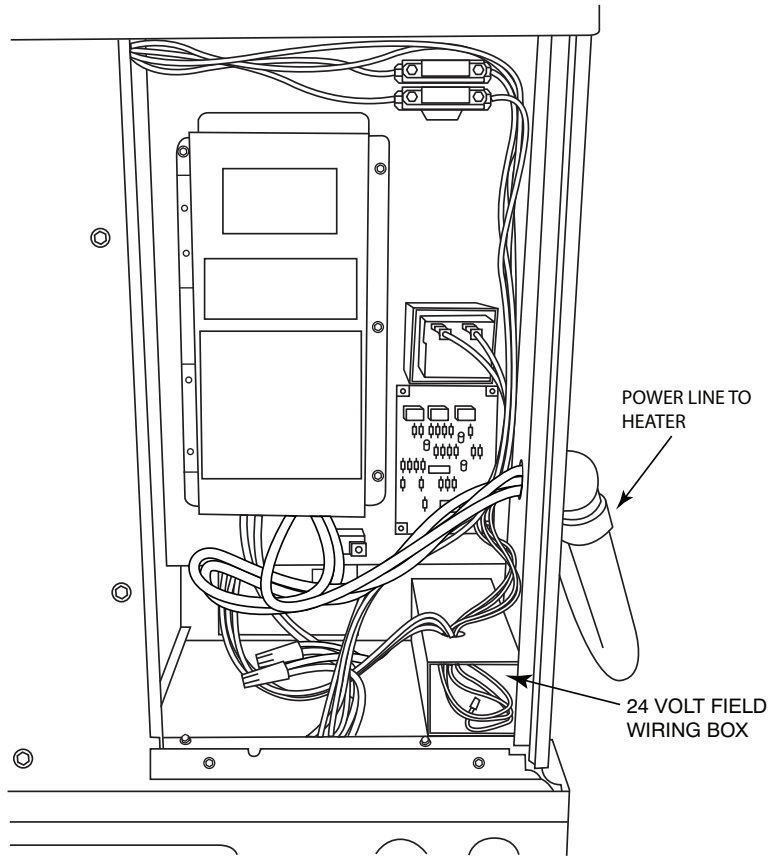
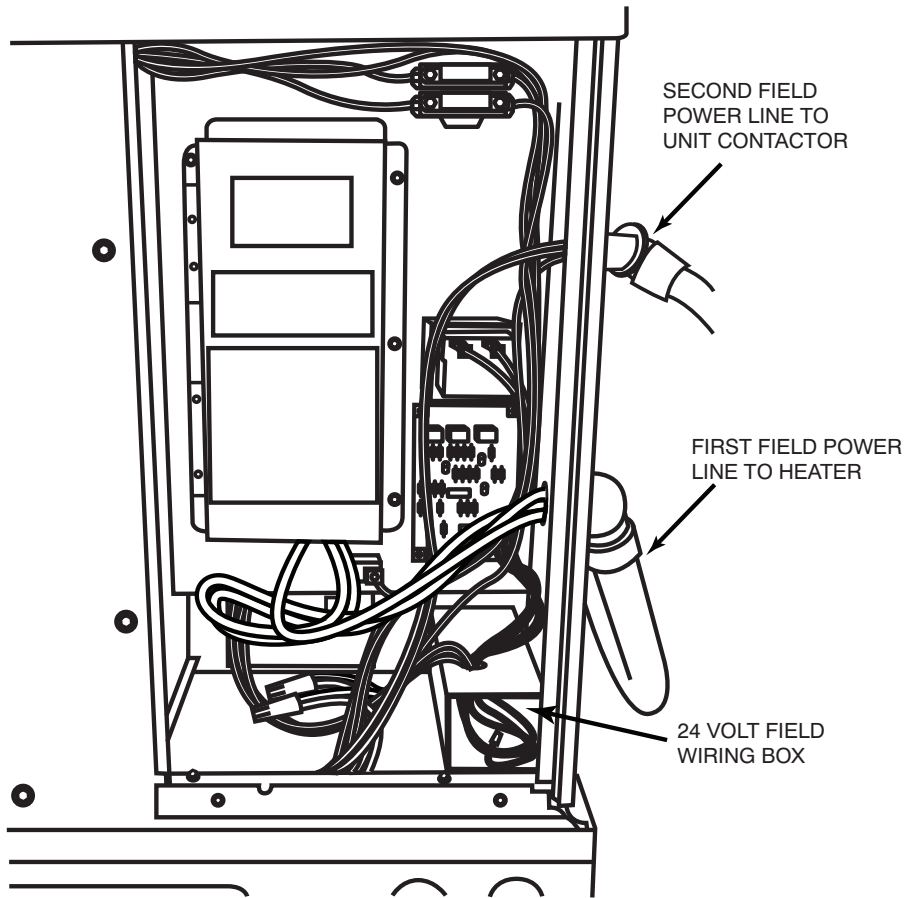
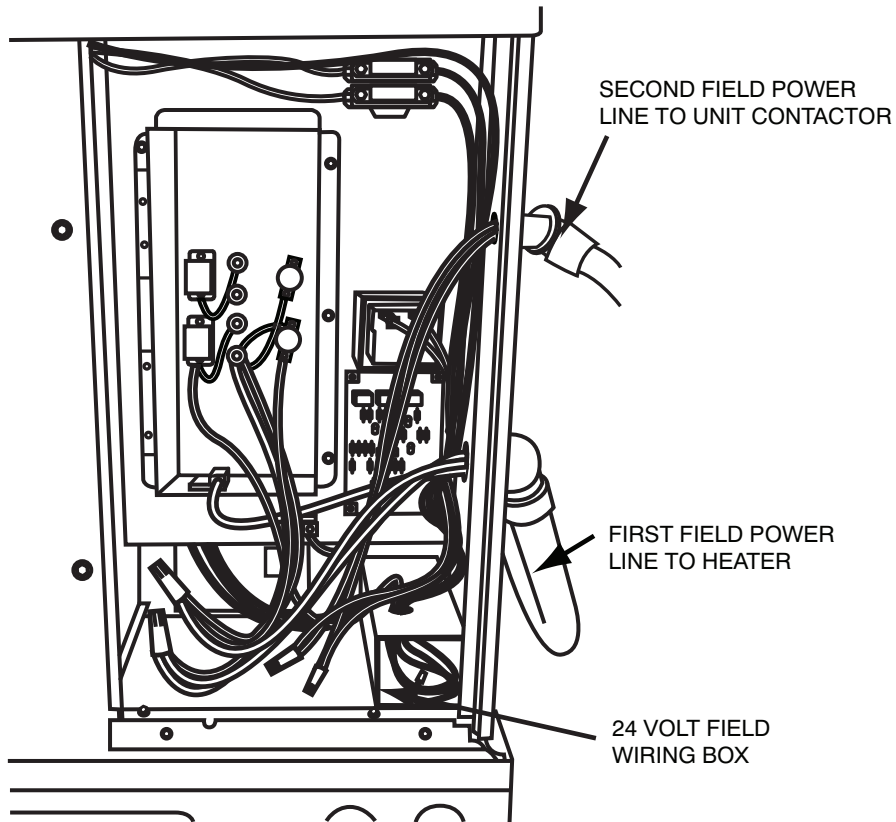
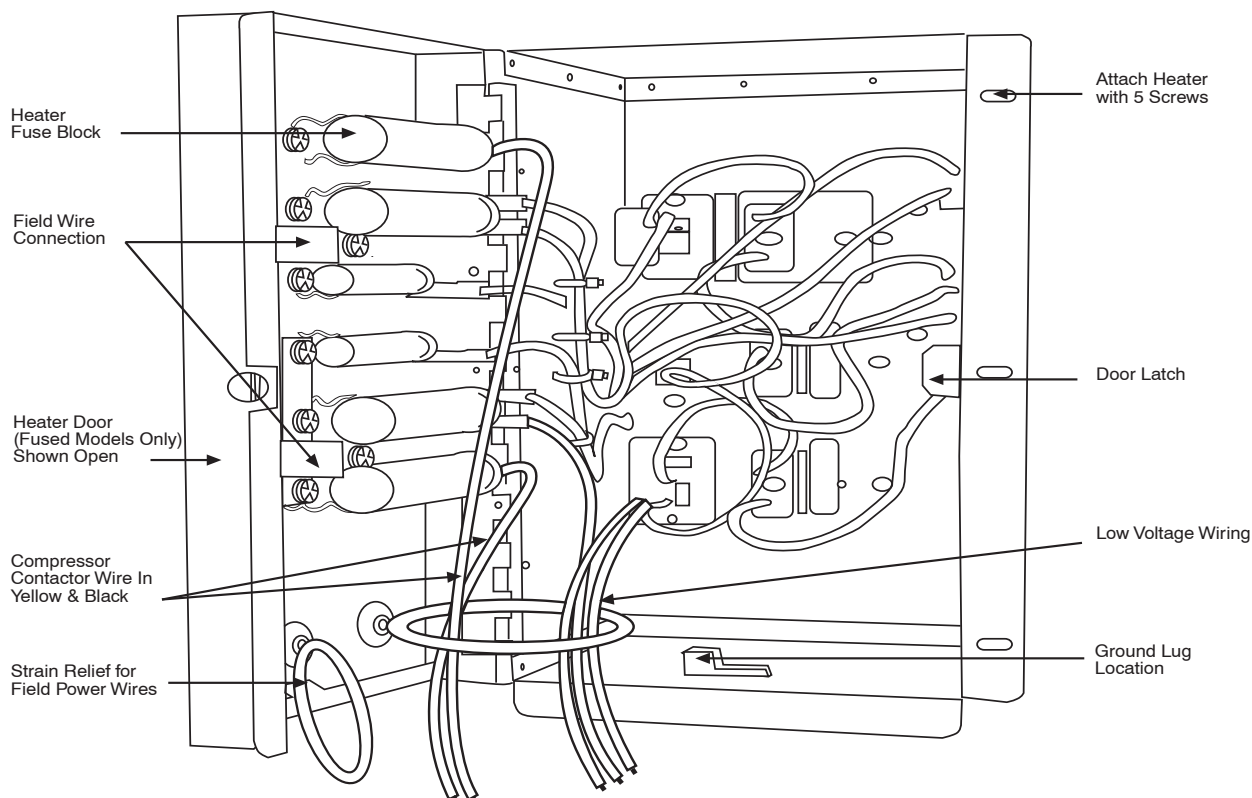

Fig. 6 - Single Point Connections for Fused Heater
Fig. 8 - Dual Point Connections for Fused Heater
Fig. 9 - Dual Point Connection for Non-Fused Heater
Fig. 10 - Fused Heater Control Box
4. Insert field power line through the electrical heater access panel hole (see Fig. 6 or 7) and connect to electric heater as shown in their respective wiring diagram. Fused electrical heaters field lines will be connected to the fuse block lugs (see Fig. 10) and non fused electric heater field lines will be connected to heater leads using wire nuts. Ground electrical equipment in the appropriate locations. Seal all openings to prevent air leaks.
3. Insert first field power line through the electrical heater access panel bottom hole (see Fig. 8 or Fig. 9) and connect to electric heater as shown in their respective wiring diagram found on the heater accessory kit. Fused electrical heaters field lines will be connected to the fuse block lugs (see Fig. 10.) and non fused electric heater field lines will be connected to heater leads using wire nuts. Ground electrical equipment in the appropriate locations. Seal all openings to prevent air leaks.
4. Insert second field power line through the electrical heater access panel top hole (see Fig. 8 or Fig. 9) and connect to unit contactor black and yellow leads using wire nuts. Ground electrical equipment in the appropriate locations.